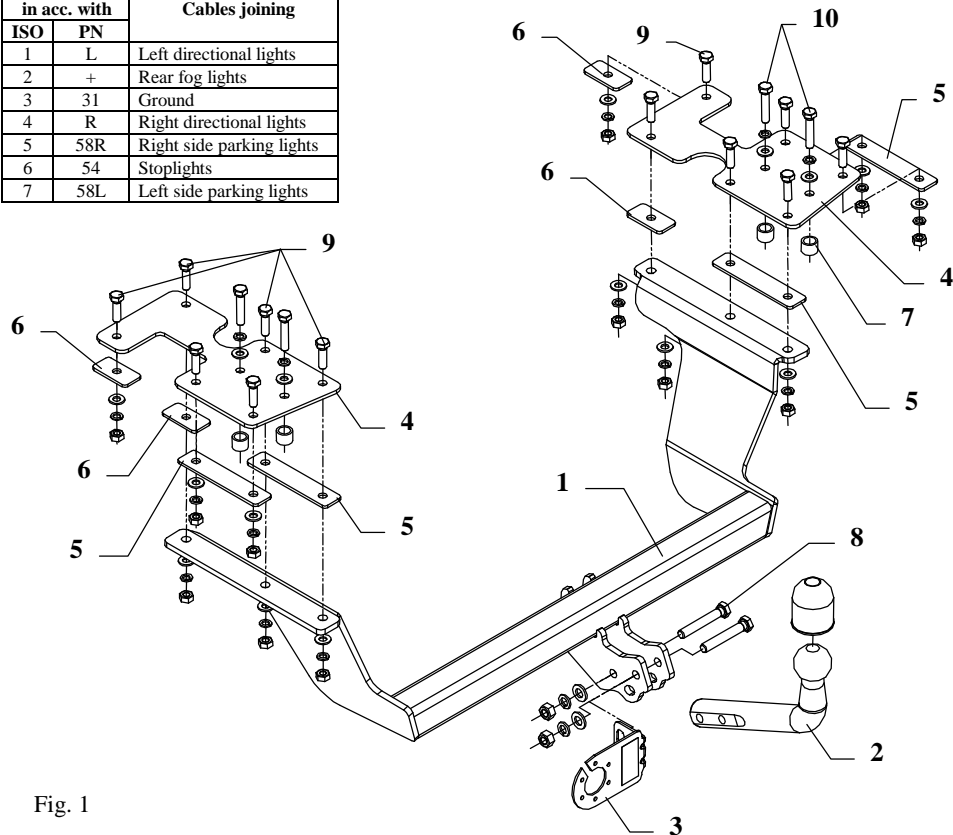
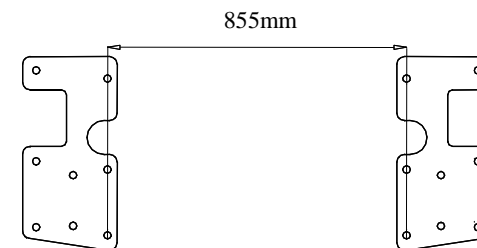

Fig. 1
Fig. 2
- Apply fish-plates (pos. 4) such way, so holes, in which enter bolts M10x1,25x50mm (pos. 10) overlapped on holes, which were previously unscrewing bolts fastening arms of the bumper. Then marked the contour of fish-plates and after this put aside fish-plates – inside contours remove the anti-noise layer. Put fish-plates (pos. 4) in this way, so holes for bolts M10x1,25x50mm (pos. 10) agree with holes after disassembly of towing hitch brackets. Mark contour of the fish—plates, next take them of and remove protective layer from inside of contour.
- On holes fastening arms of the bumper put distance sleeves L=16mm (pos. 7). Then apply again fish-plates (pos. 4) and fix with bolts M10x1,25x50mm (pos. 10) as showed on the fig. 1.
- Attention! Make sure whether fish-plates lay as one showed on the fig. 2.**
- By remaining holes of fish-plates (pos. 4) drill through holes  $\varnothing 10,5\text{mm}$ . Then into all holes insert bolts M10x35mm (pos. 9).
- From the bottom of the car on protruding bolts put distance washers (pos. 5 and 6) and the main bar of the towing hitch (pos. 1) and fix as showed on the fig. 1. .
- To so prepared towing hitch fix tow-ball (pos. 2) and socket plate (pos. 3) by bolts M12x75mm (pos. 8) from accessories.